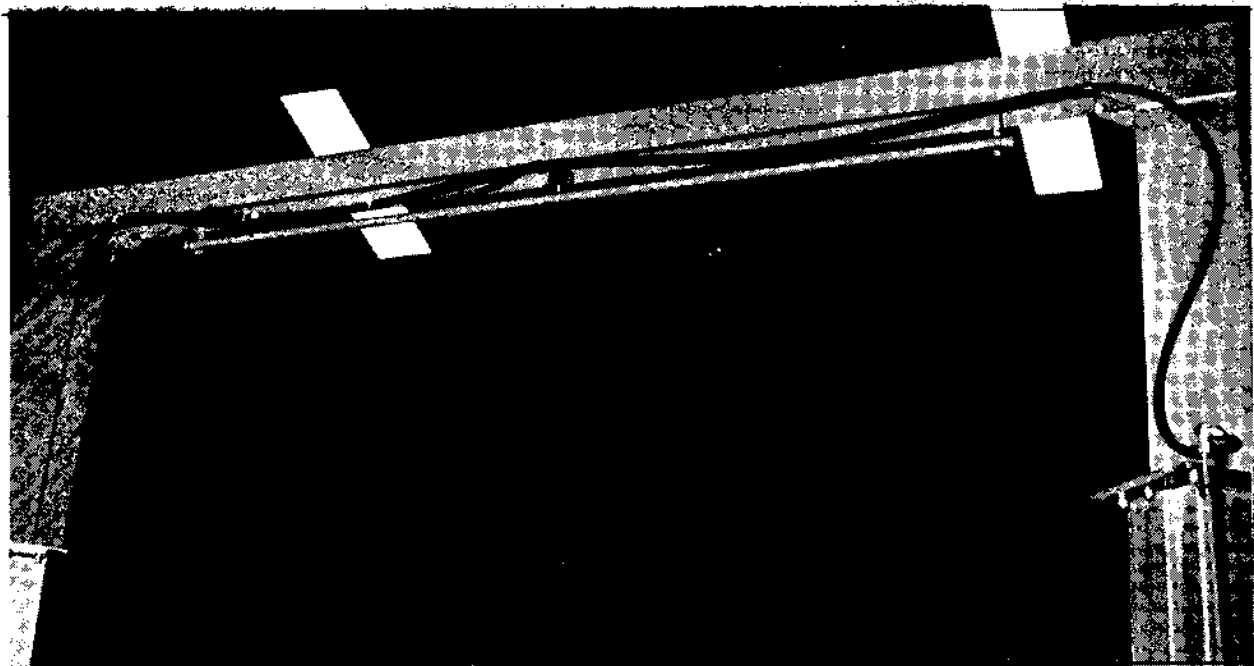

Fig. 53
41. Route hose to rear of horizontal channel and clamp to bottom inner screw with a hose clamp. (See Fig. 53). This screw must be removed to install this clamp.
43. Remove bottom inner screw from right rear horizontal channel and install hydraulic hose using one hose clamp. (See Fig. 53).